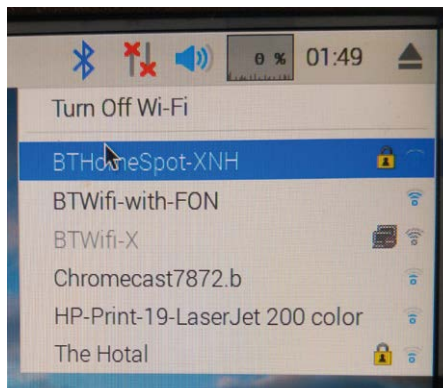

Figure 2.3 Select your Wi-Fi from the list
- Select your Wi-Fi router from the displayed list (see Figure 2.3)